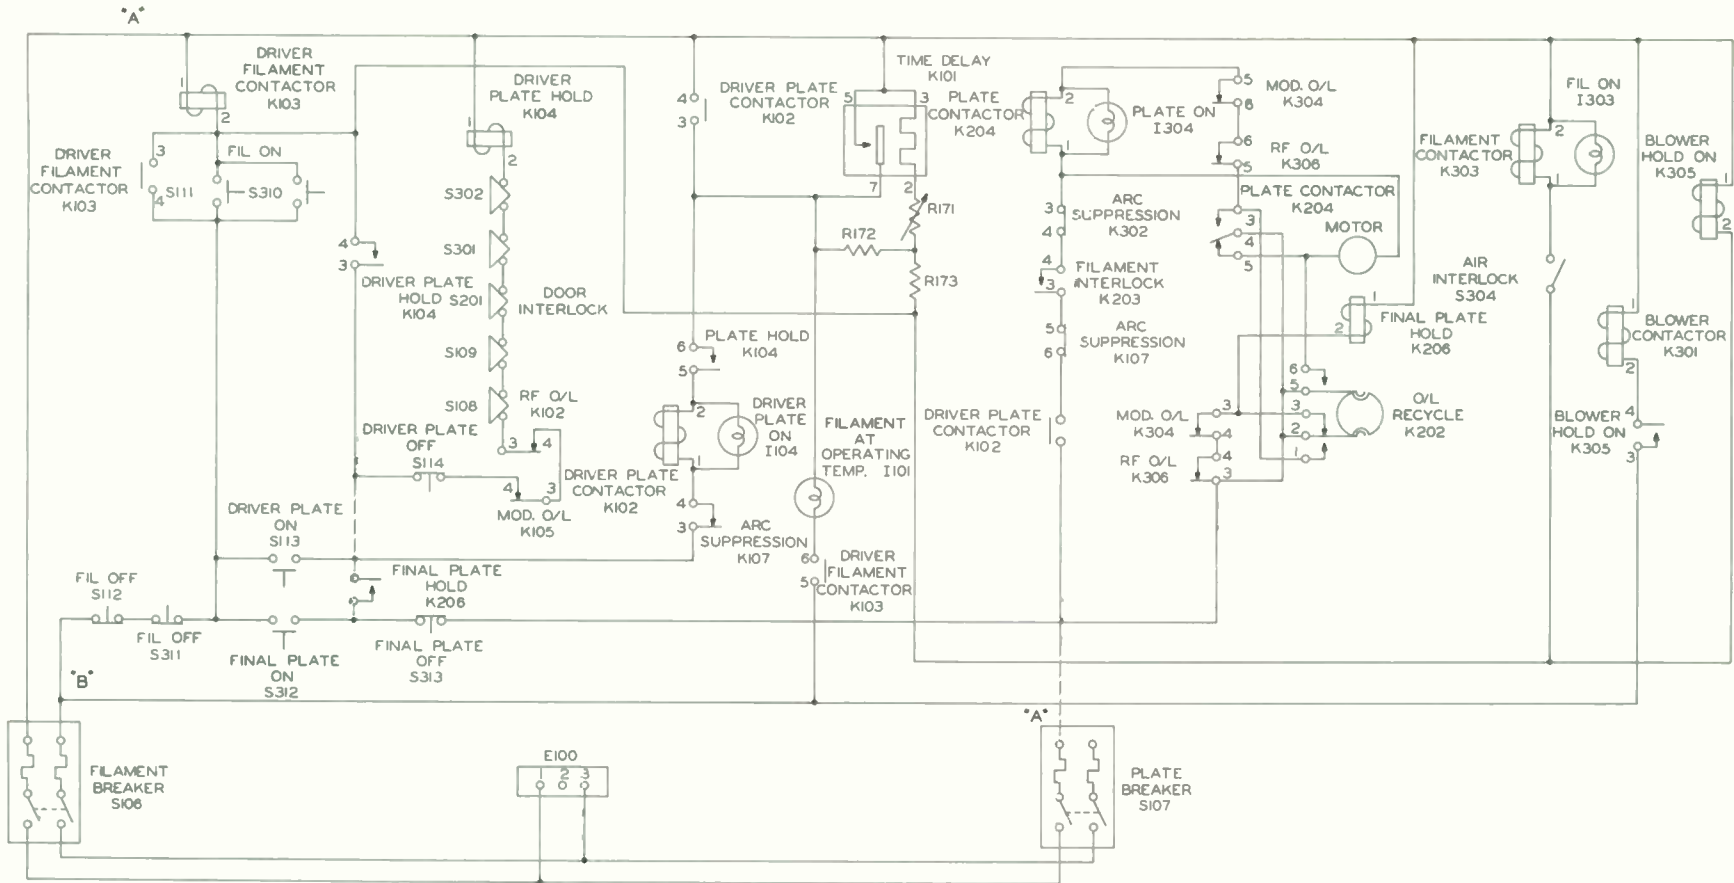

Figure 4-4. Control Circuits, Simplified
4.4.3 PLATE. (See figure 4-4.)
In succession, the driver filaments and blowers will come on, the PA blower will come on, the PA filaments will come on, and then the driver plate and PA plate will come on. (Refer to figure 4-4.) Pressing the PA PLATE ON button will energize PA plate hold relay K206 by the circuit at phase B of S112, S311, S312, S313, K306-3 and 4, K304-3 and 4, to the relay coil. Phase A is connected directly. This relay is held by its contacts K206-3 and 4, which are responsible for energizing of driver plate hold relay K104 through S112, S311, S312, K206-3 and 4, S114, K105-4 and 3, K106, 4 and 3, S108, S109, S201, S301, S302 to the coil of K104. Contacts 3 and 4 of driver plate hold relay K104 now energize driver filament contactor K103 to light all filaments and start the heater element of time delay relay K101. Contacts K104-3 and 4 now become K104 holding contacts. Now, because the two plate hold relays K104 and K206 are already operated and held, the driver plate will come on at the end of the K101 delay period, and contacts 5 and 6 of driver plate contactor K102 will start a PA plate turn-on cycle by energizing the motor of K202.
4.4.4 OVERLOAD CIRCUITS. (See figure 4-4.)
Refer to the control circuit schematic, figure 4-4. Contacts 3 and 4 of K107 are connected in series with the coil of driver plate contacts K102. Contacts 5 and 6 of K107 and 3 and 4 of K302 are connected in series with the coil of plate contactor K204. Should an arc